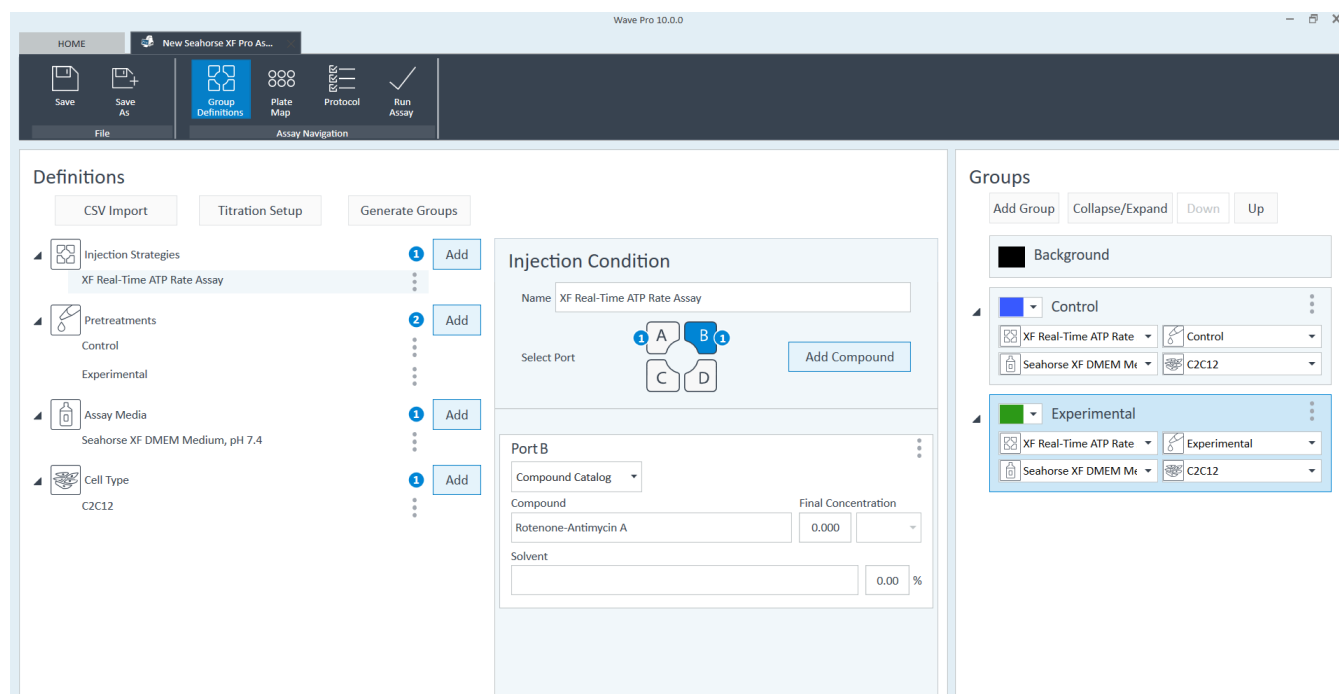

Figure 6. Group definitions
- 1 Click **Add** next to **Injection Strategies**. (See Figure 6.)